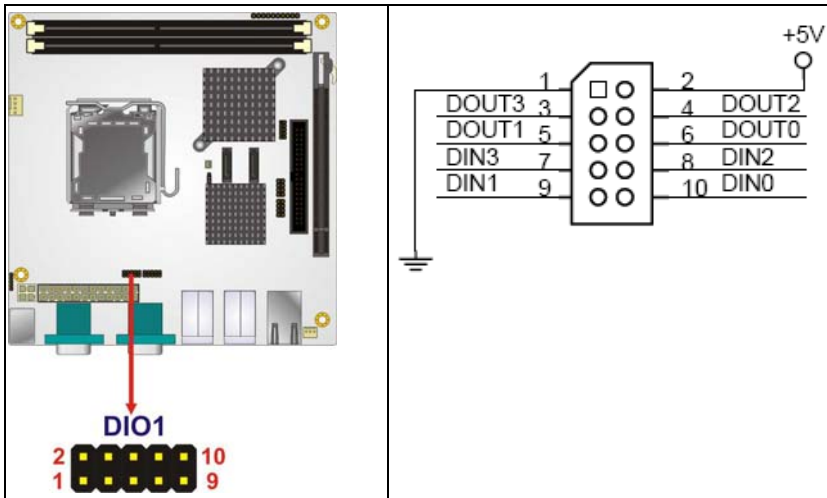

Figure 4-6: Digital I/O Connector Location
- CN Location:** See Figure 4-6